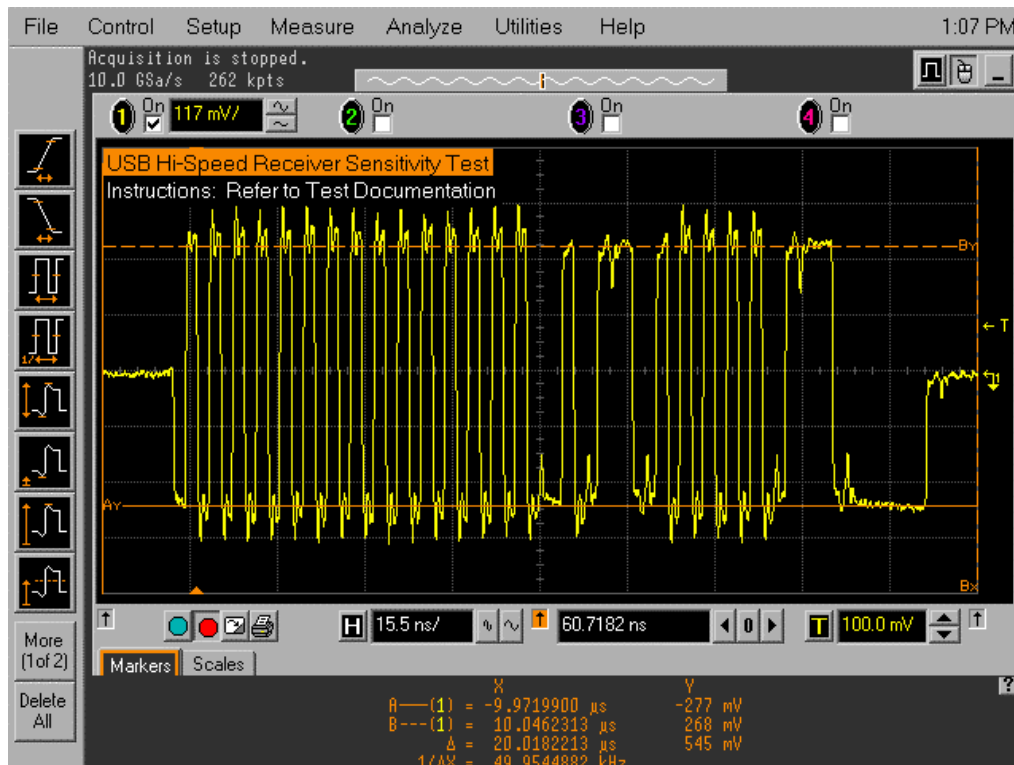

Figure 32. Measuring the Packet Amplitude
- Repeat this step until the packet becomes adequate size for the measurement (see Figure 32).
15. Using the oscilloscope markets, measure the packet amplitude (Figure 32) ...